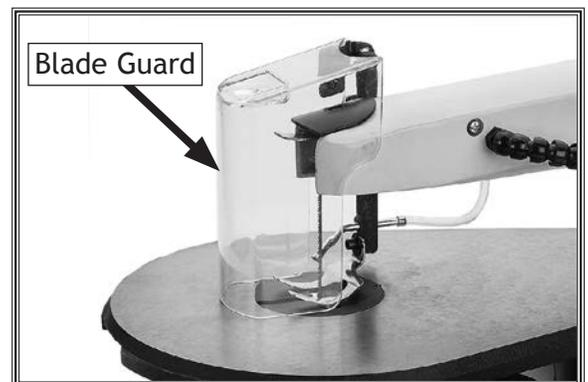

Figure 31. Guard position.
1. Position guard so it covers hold-down shoe and touches table (See **Figure 31**).